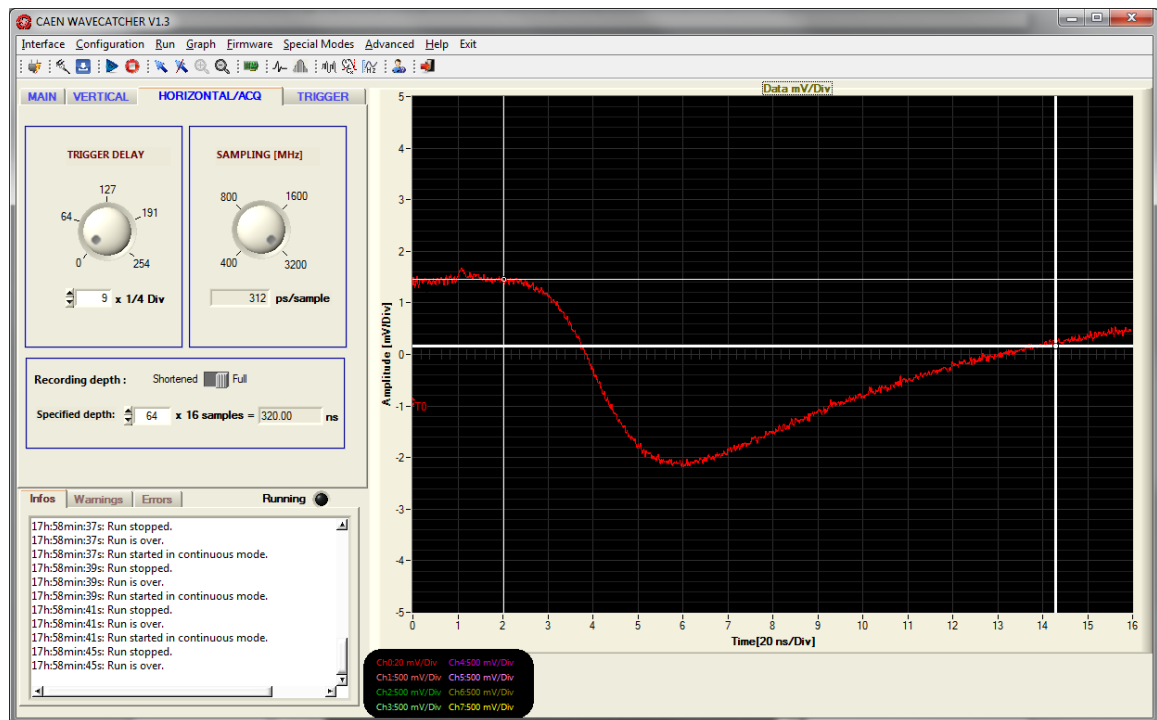

Fig. 5.18: Charge Integration region selection
- **Enable/Disable Charge Mode:** the user can select between charge integration made at firmware or software level. before enabling the charge mode, the appearing cursors must be used (in standard mode) to select the region of integration (see Fig. 5.18).